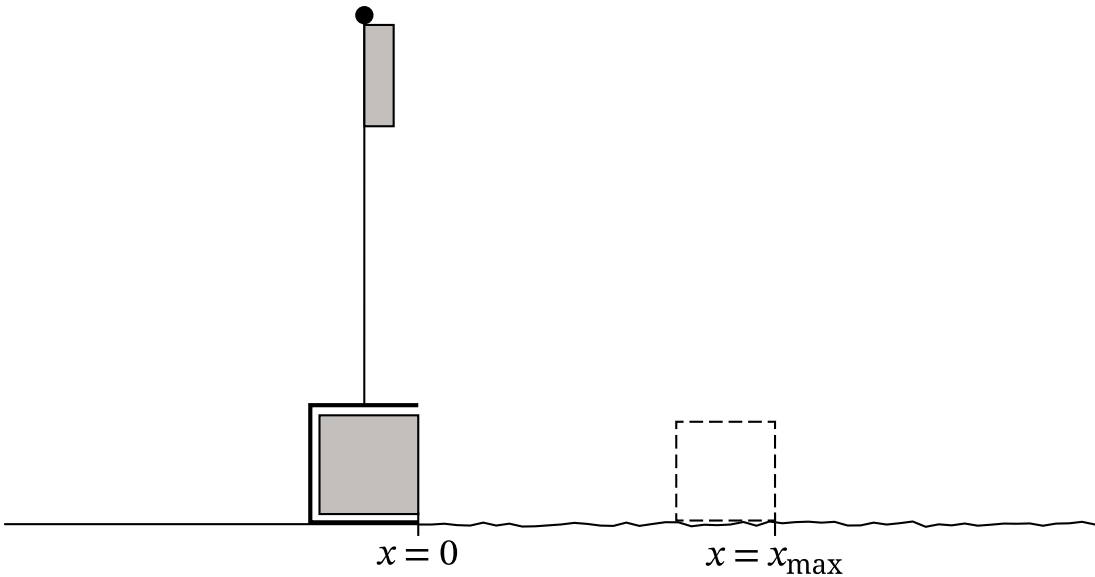

Figure 3
C. The experiment is repeated, but the horizontal surface on which the block slides is replaced with a new rough surface, as shown in Figure 3. The coefficient of kinetic friction between the block and the new surface is  $\mu$ .